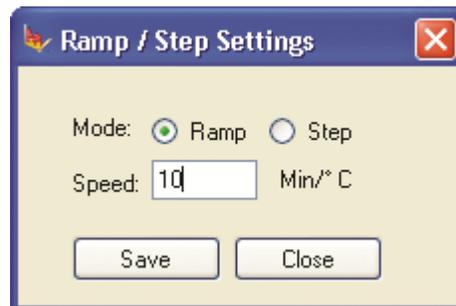

Figure 5-12 Ramp/Step Settings Software versions prior to v3.10
1. Click the **Ramp/Step** icon  to open the **Ramp/Step Settings** dialog box (Figure 5-12).